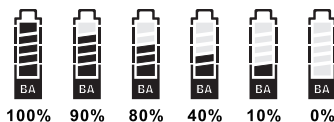

Fig. 18
- (1) Press the ACT button and the GRP/CH numbers start blinking to denote the synchronization process starts.
- (2) Ensure transmitter is powered-on. Align the ACT IR port of both transmitter and receiver within 30 cm.
- (3) Once the sync is completed, the ACT function will stop automatically and the full grid of RF meter glows. The LCD on the transmitter also displays the same group and channel of the receiver.
4. BA displays the battery meter in percentage (%) indication of remaining battery life when received the transmitter signal. Replace with new, fresh batteries when battery indicators fall to 10% (1 indicator remaining), as shown in Fig. 18.